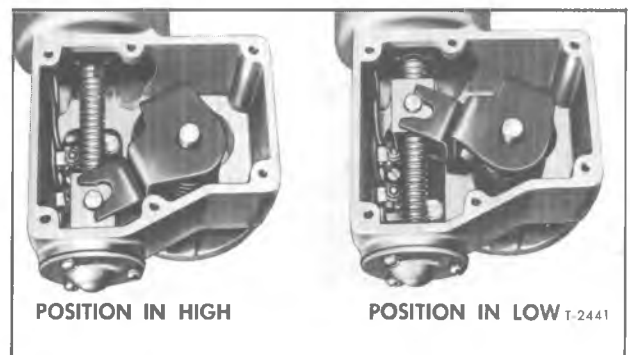
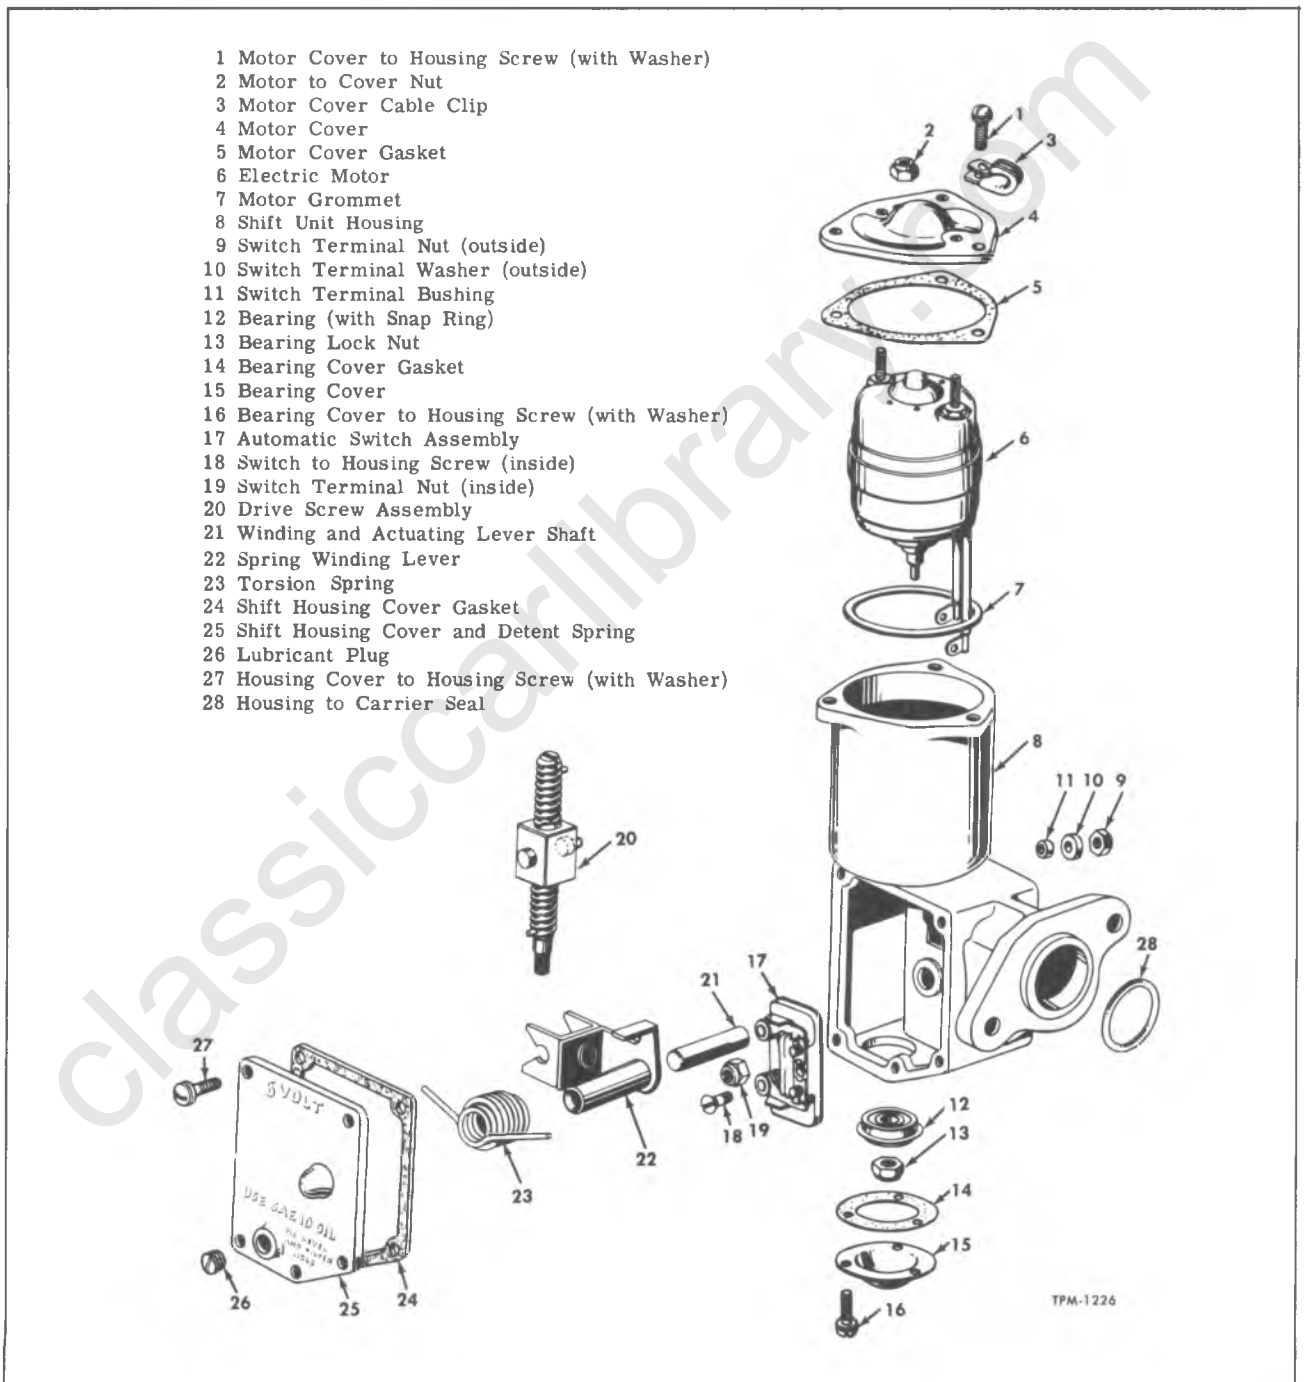

Figure 7—Position of Drive Screw in High and Low Range
Figure 11—Electric Shift Unit Components (Rockwell)
When the control switch button is in "HI" range, wiring carries current to one field of the unit motor. The armature and drive screw turn in a clockwise direction and move the nut down (fig. 7).
1. Remove five screws from shift unit housing cover (25) (refer to fig. 11), then remove cover. This also drains the lubricant. After cover is removed, note that drive screw nut is either at top or bottom (fig. 7) depending on whether axle is in "HIGH" or "LOW" range position.
1. Remove six screws (28) and lock washers which attach cover (26) to shift motor housing (8). Drain lubricant from housing. Remove gasket (25).
2. After removing cover (26), the drive screw (20) nut will be at either top or bottom depending upon the position in which the control switch was last left.
3. By turning drive screw, run nut from top or bottom to the center of the screw (fig. 11).
Key numbers in text refer to figure 11.